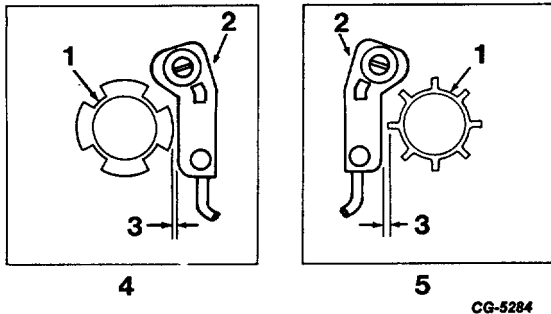

Fig. 43 Trigger Wheel-to-Sensor Air Gap
- a. Rotate trigger wheel until one tooth is aligned with centerline of sensor (trigger wheel tooth perpendicular to flat surface of sensor). (Figure 43)
end of tooth (Figure 43). Move sensor as needed to obtain specified air gap (see DISTRIBUTOR TEST SPECIFICATIONS).